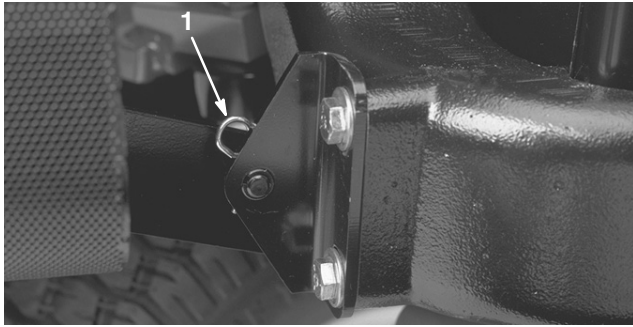

Figure 35
2. Remove the cotter pin securing the hood pivot to the mounting brackets (Fig. 35).